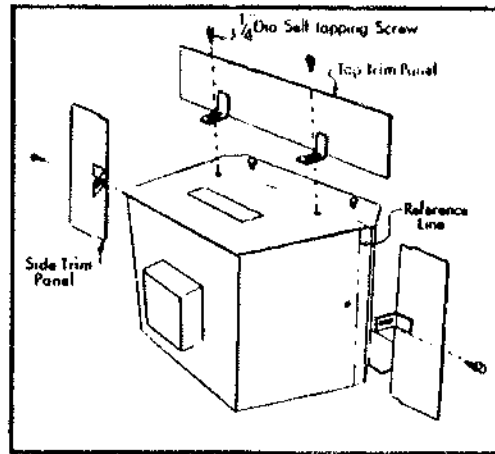

FIGURE 5 MOUNTING TRIM PANEL
4. Mount the side trim panels. (See Figure 5)